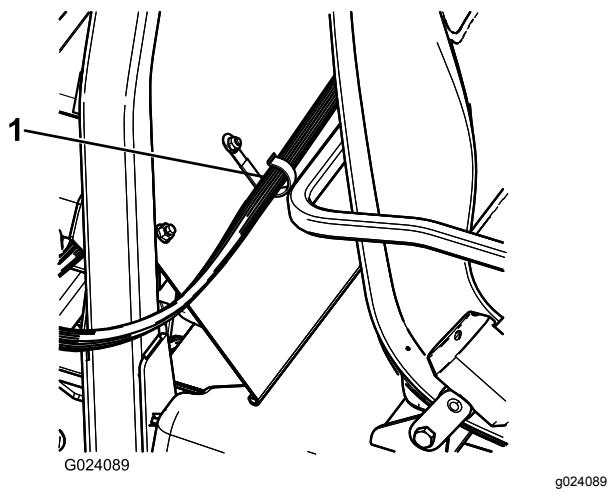

**Figure 21**
1. Install 2 J-clips in the center console at the points located in Figure 20 or Figure 21 using the existing screws.